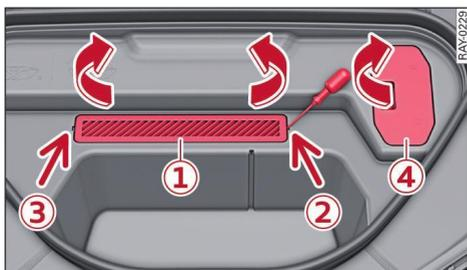

Fig. 126 Front compartment with storage compartment: covers for charging terminals: ① positive battery terminal / ④ earth point
- ▶ If your vehicle is equipped with a storage compartment, remove the cover ① and ④ ⇒ Fig. 126. Use a screwdriver to remove the cover ①. Position the screwdriver at ② and lift the cover slightly. Repeat this process at ③ and remove the cover.